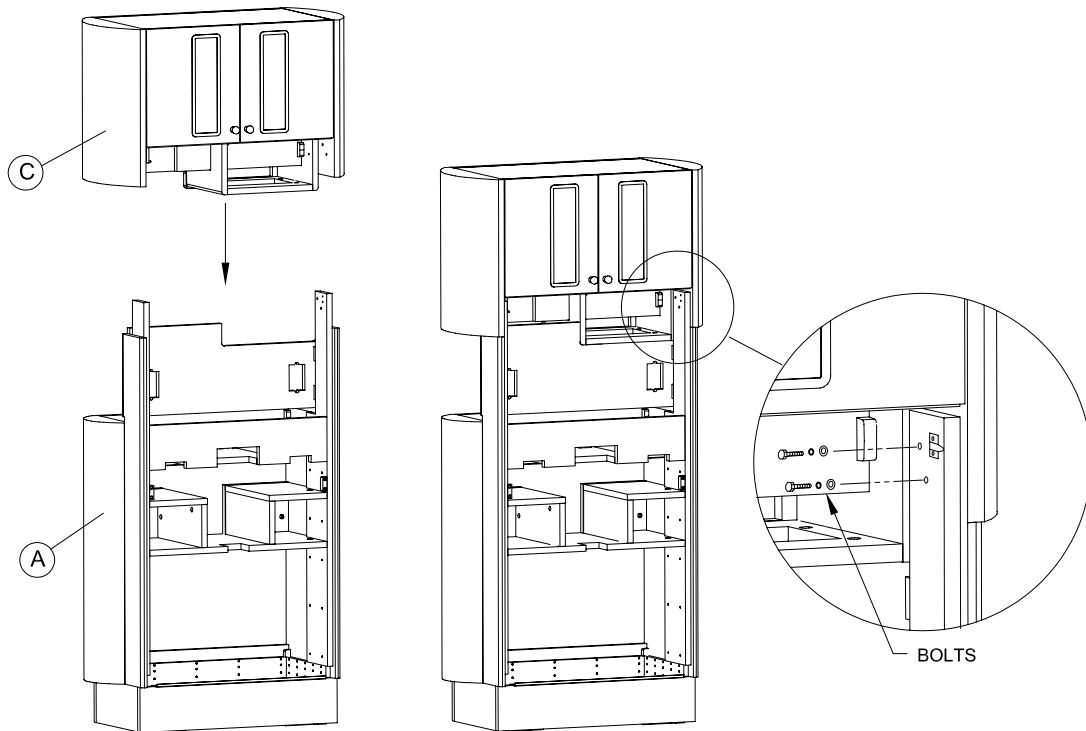

FIGURE 5
Place upper storage (C) on top of cabinet base (A) and secure with (4) 5/16-20 x 2" bolts, each with a 5/16" flat washer and 5/16" lock washer. (2 bolts on each side). See Figure 5